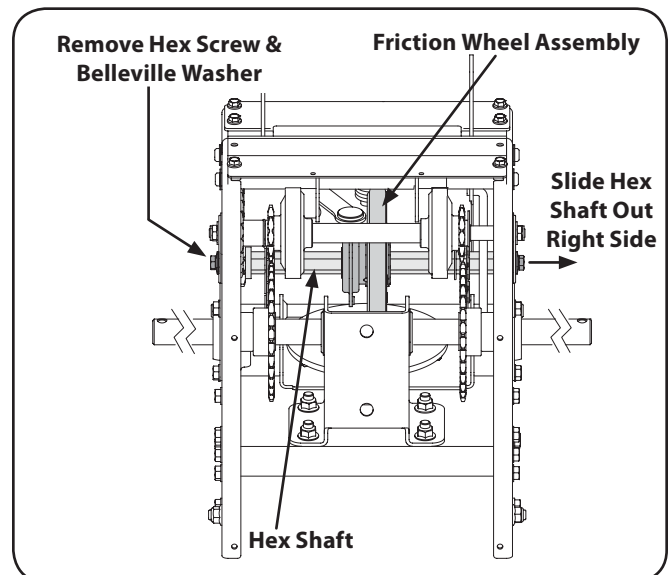

Figure 7-10
4. Using a 3/4" wrench, hold the hex shaft and remove the hex screw and belleville washer and bearing from left side of the frame. Refer to Fig. 7-10.